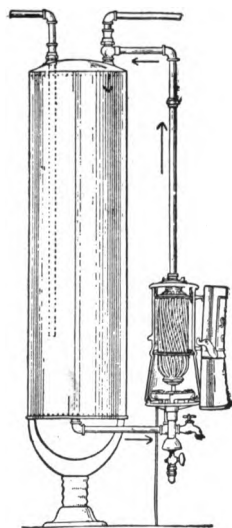

FIG. 328.—GAS WATER HEATER CONNECTIONS
**338. Gas Water Heater.** In case a gas heater is used for heating the water, the bottom of the boiler is connected to the lower end of the heater coil, while the pipe from the top of the coil is connected to the hot water outlet pipe at the top of the boiler (Fig. 328). The reason for the difference in the manner of connecting this last pipe is that when the gas heater is used,